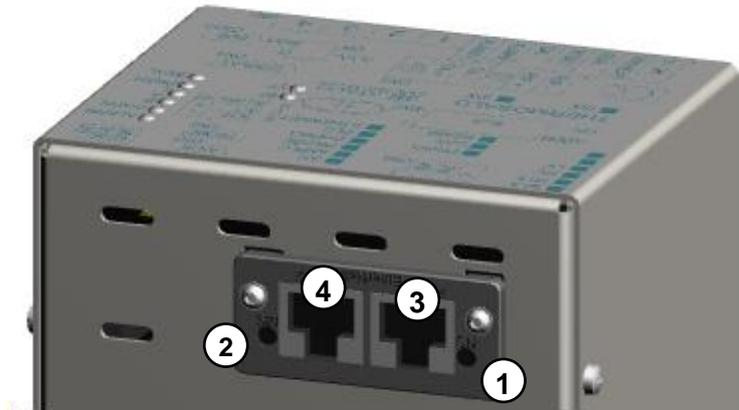

Figure 20 – Ethernet Switch models *AB*
6.3.3.1 Models AB (see 6.2.8, Figure 20)
6.3.4.1 Models AB (see 6.2.8, Figure 20)